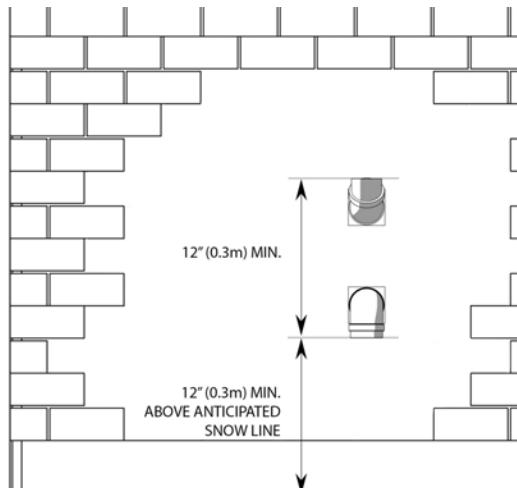
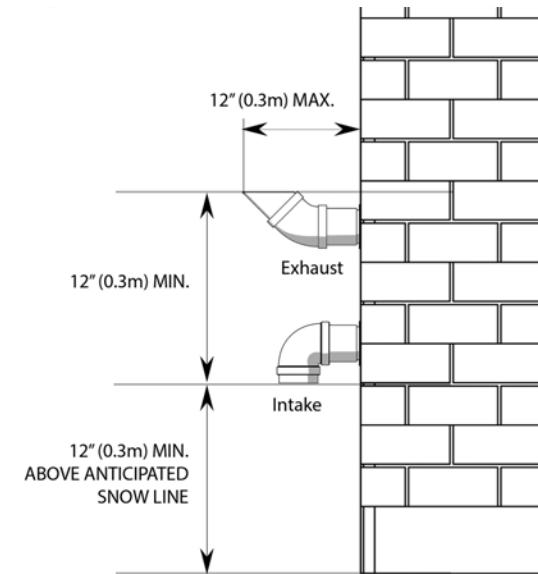

Figure 22 Vent termination clearance--vertical alignment
Figure 23 Vent termination clearances--vertical alignment, side view
- » Use a 45° elbow on the exhaust termination to launch the plume up and off the sidewall (for protection of wall). A short piece of venting cut at 45° gives a horizontal termination protected from wind loads (see *Figure 21*, and *Figure 23*).
Important!: Maintain at least the minimum separation of exhaust vent termination from boiler intake air as illustrated in Figure 20, Figure 21, Figure 22 and Figure 23. Failure to maintain the minimum separation can result in a dangerous situation where exhaust gasses are re-ingested with combustion air. Damage to the boiler can result from a failure to maintain these separations. Third party vent termination kits and concentric wall penetration kits that do not maintain these minimum separations must **not** be used. Improper installation will void the warranty.